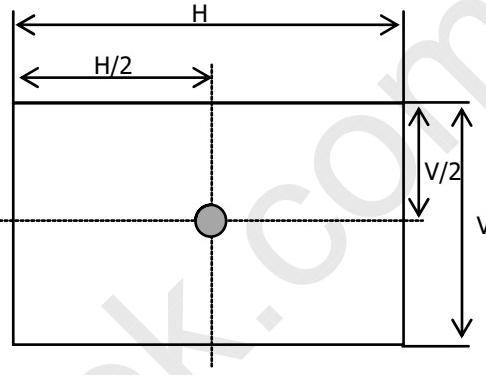

FIG. 4 Measure Point for Luminance
2. Surface luminance(LWH)is luminance value at No.1 point across the LCD surface 50cm from the surface with all pixels displaying white. For more information see FIG 4.
For more information see FIG 4.